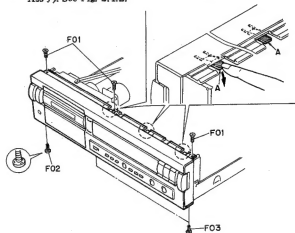
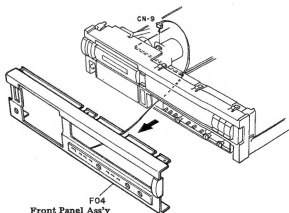

Fig. 2.4.1
Fig. 2.4.2
Refer to Figs. 2.4.1 and 2.4.2.
- (1) Remove the Top Cover Ass'y referring to item 2.1.
- (2) Loosen screws F03 (2 pcs.), F02 (1 pc.) and F04 (2 pcs.). See Fig. 2.4.1.
- (3) Press claws A (3 pcs.) downward to unhook them.
- (4) Disconnect a connector (CN-9) and remove F04 (Front Panel Ass'y). See Fig. 2.4.2.